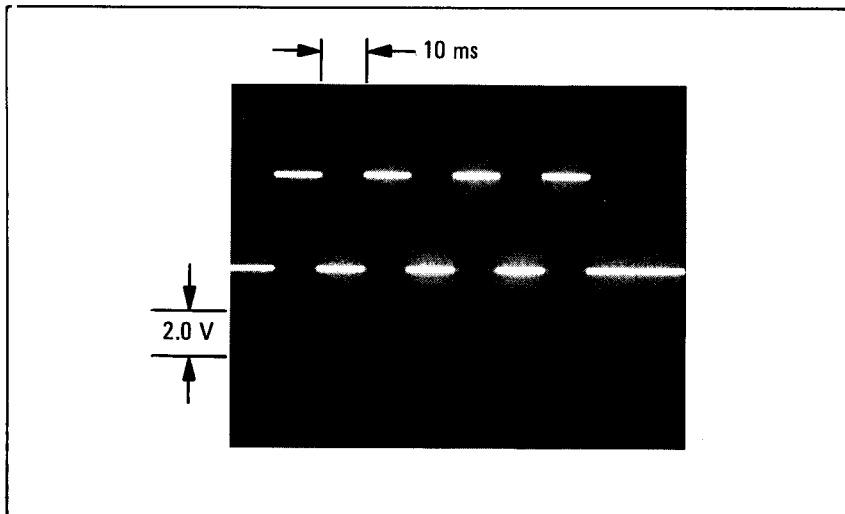

Figure 2. Oscilloscope Display of SAR Data Control Generated during FM Calibration (dc coupling to U5-Pin 7; external triggering from U5-Pin 13)
2. Increment the frequency up 10 MHz. Figures 2, 3 and 4 show the correct signals for FM Calibration of the LF Loop's VCO.